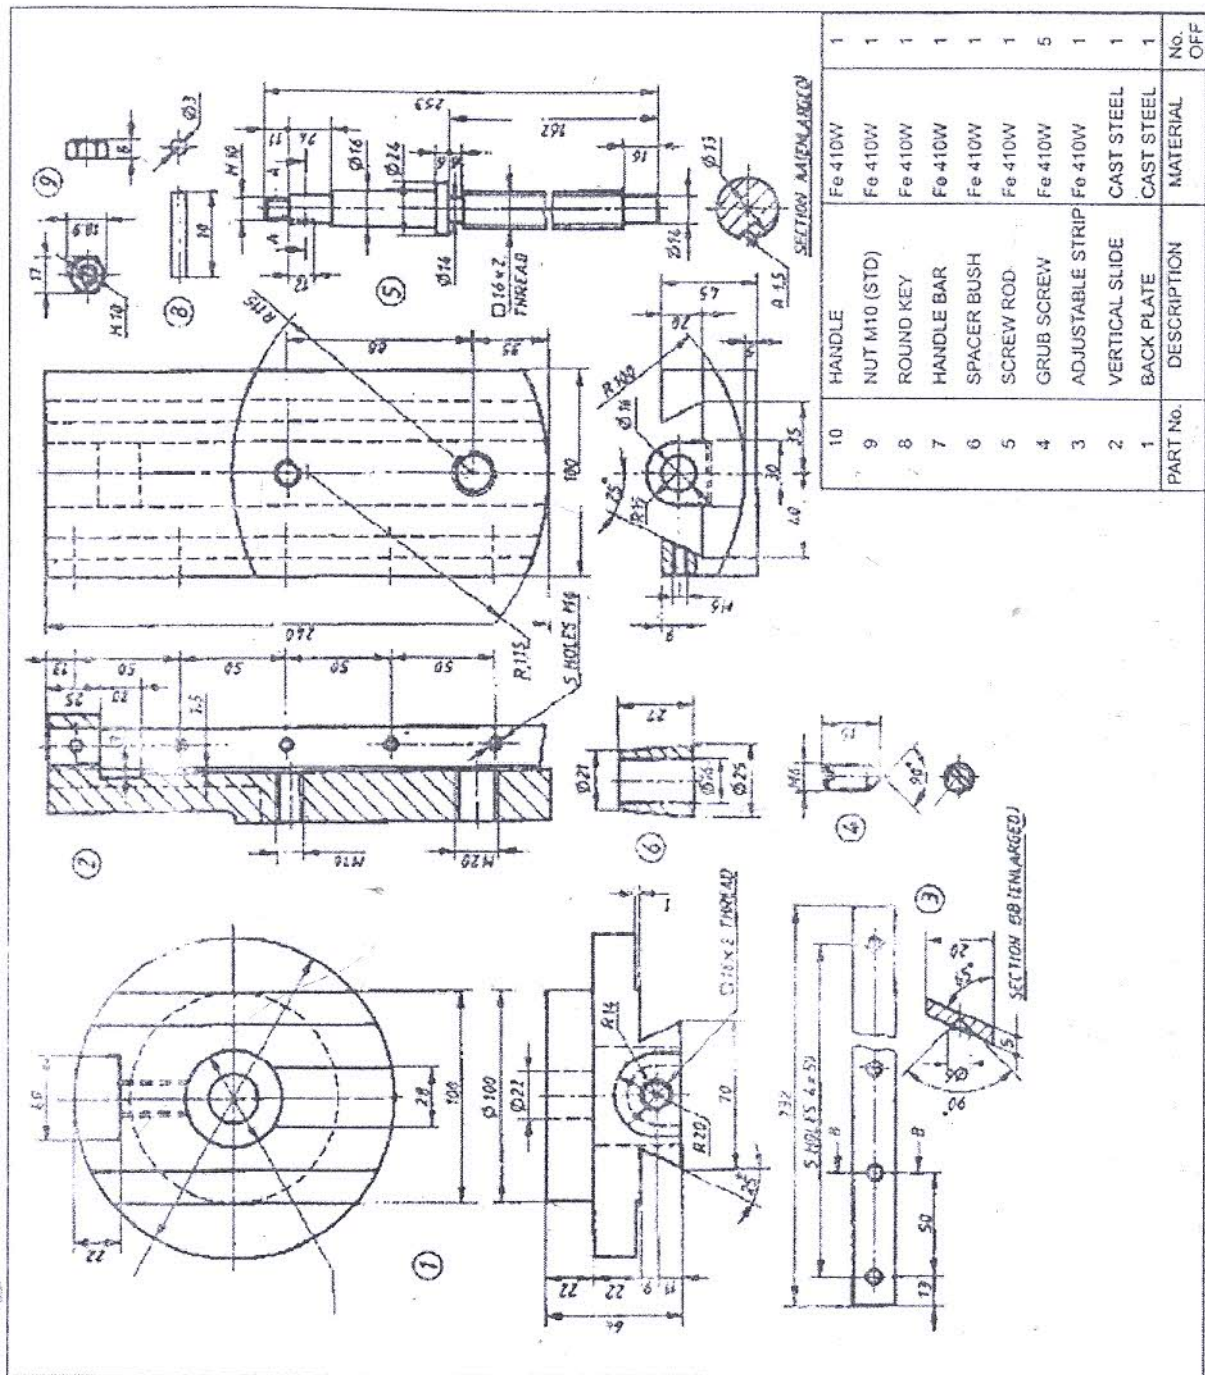

Figure 2
- Q. No. 6.** Details of Tool Head of a Shaper are shown in following figures 2 and 3. Assemble the parts and draw the following views. i) Sectional front view, ii) Top view. **(60 Marks)**